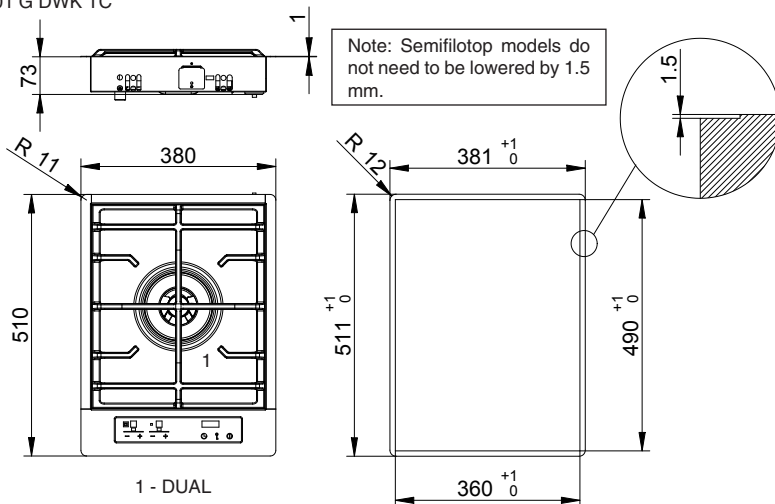

Fig. 7
- replace the injector (Fig. 7) with the corresponding type of gas to be used (see table "User characteristics");